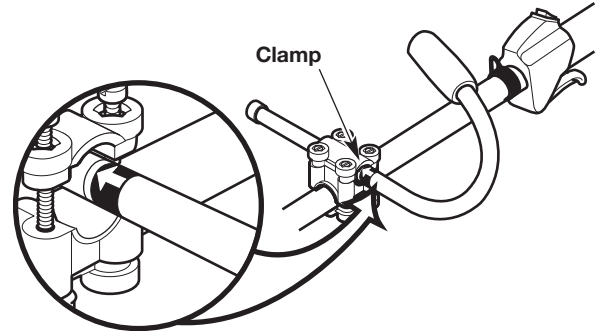

Fig. 5
5. Hold the unit in the operating position (Fig. 13) and slide the handle in or out of the clamp until the arrow/line on the decal touches the clamp (Fig. 5).